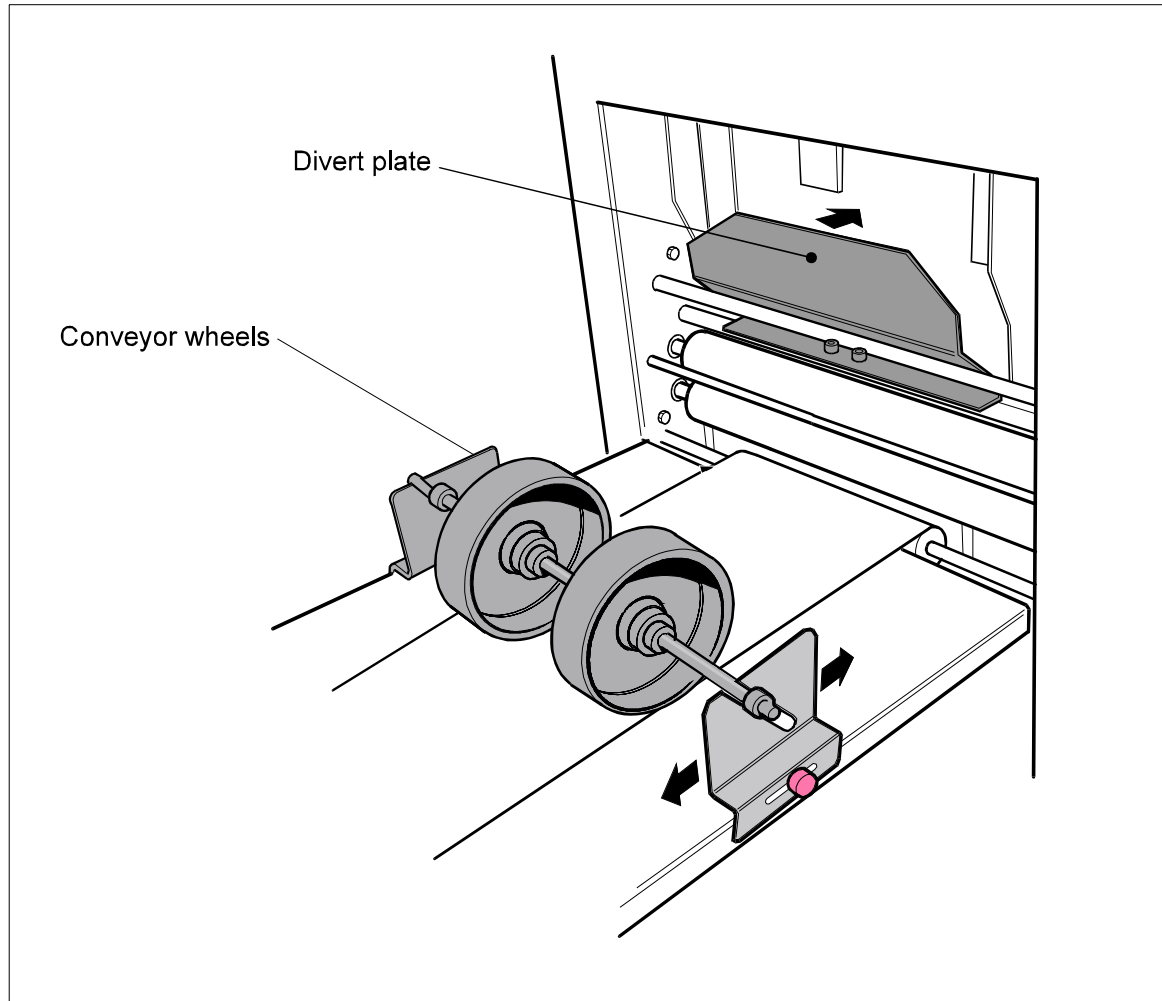

Figure 11 - Conveyor setup 1.
6. The conveyor wheels shown in figure 11 should be adjusted so that the wheels are just over a book's distance from the fold rollers. Too close and they will interfere with subsequent booklets coming out of the fold rollers. If the wheels are too far away the booklets will have the tendency to insert themselves inside previously ejected booklets.
4. Push the divert plate (part no. 3.71) back against the Top front plate (part no. 3.42), figure 11. This will divert the set of paper away from the folding section and out of the machine.